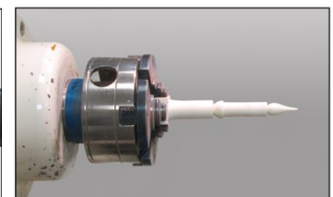

Figure 8
5. Sand the turned areas. This part of the finial should look like a candle with a flame. (fig.8)